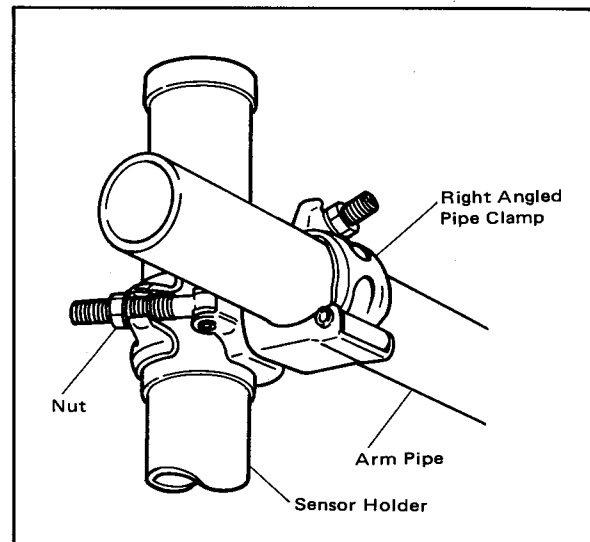

Figure 2-4. Sensor Holder Removal (Pipe Mounting Type without Cleaner).
- (1) Pass the sensor cable and KCl solution supply tube through the sensor holder. If a submersion type holder has been installed, remove the sensor holder temporarily. For a pipe mounting submersion type holder without cleaner, loosen the nut on the right angled pipe clamp to remove the holder (see Figure 2-4).